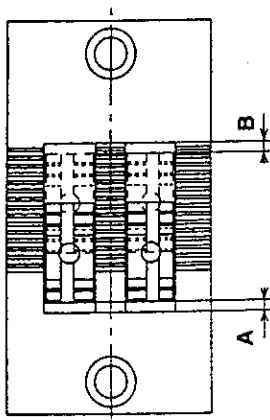
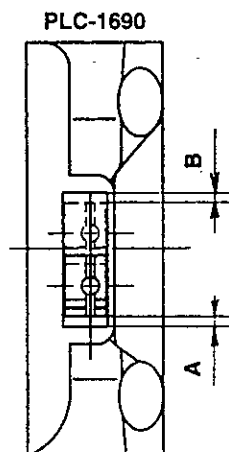

Fig. 5
Fig. 6
| <ol style="list-style-type: none"> 1) Set the stitch dial to the maximum value. 2) Turn the handwheel by hand, and confirm that the clearance (A and B in Fig. 5, Fig. 6) between the feed dog and the slot on the throat plate is equal when the feed dog travels to the front end or to the back end. 3) When the clearance is not equal, loosen setscrews ① in the feed rocker so that the feed rocker works equally, and tighten the setscrews. | <ul style="list-style-type: none"> ○ The throat plate comes in contact with the feed dog. As a result, contacting noise will be produced. |